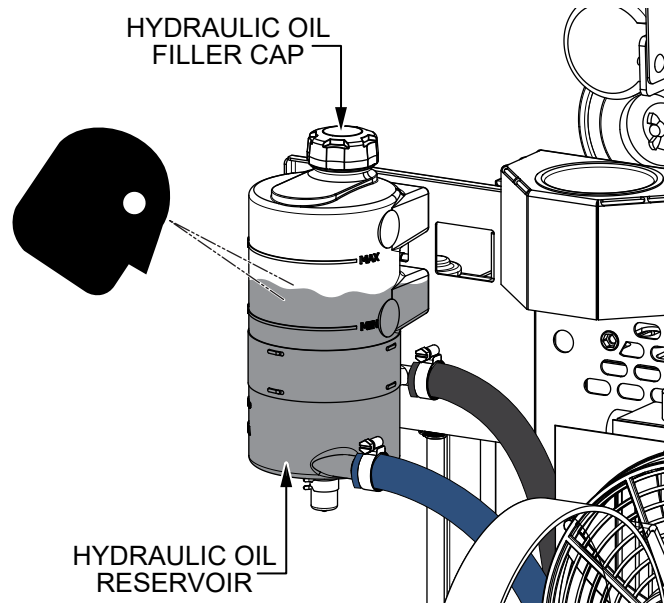

Figure 18. Hydraulic Oil Level Inspection
3. If the hydraulic oil level is low, remove the **hydraulic oil filler cap** (Figure 18), and add hydraulic oil up to a level midway between the **MIN** and **MAX** lines on the reservoir. **DO NOT** overfill. Use only Parker DuraClean ISO 46 hydraulic oil or equivalent. Replace the filler cap when finished.